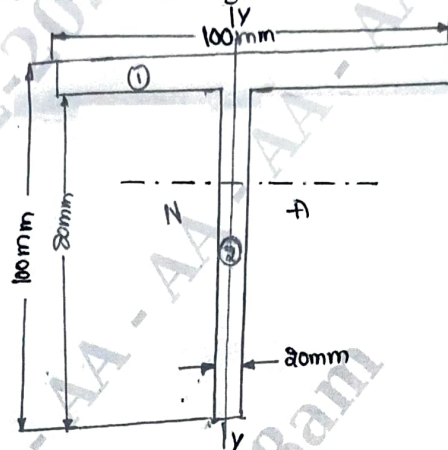

Fig. Q6 (c)
- c. The shear force acting on a section of a beam is 50 kN. The section of the beam is of T-shaped of dimensions $100\text{mm} \times 100\text{mm} \times 20\text{mm}$ as shown in Fig. Q6 (c). The moment of inertia about the horizontal axis is $314,221 \times 10^4 \text{mm}^4$. Calculate the shear stress at the neutral axis and at the junction of the web and the flange.